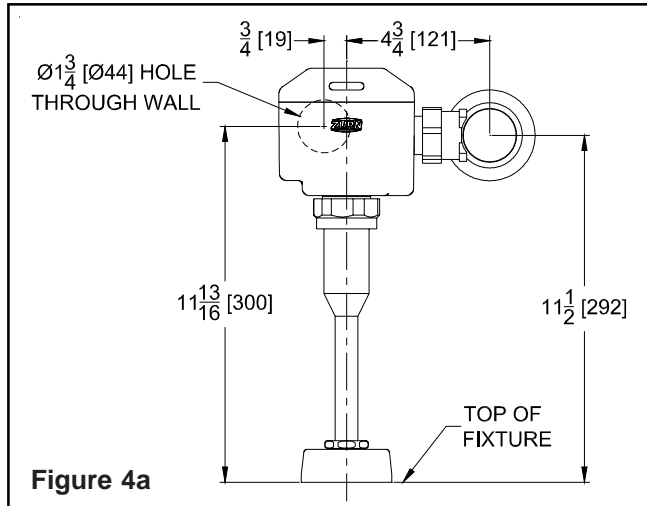

Figure 4a
A. Drill 1-3/4" diameter hole per Figure 4a.